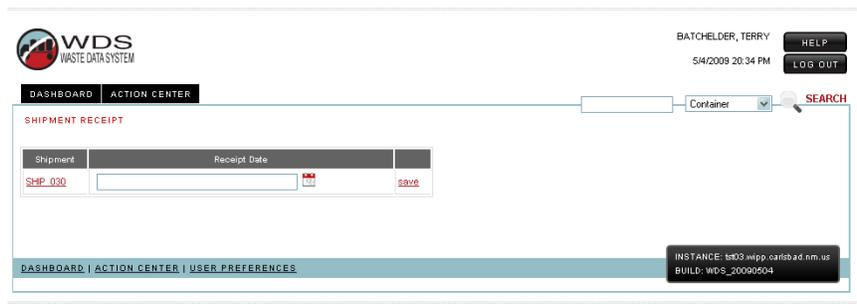

Figure 5-2 - Shipment Dashboard
5.1.2 Select Shipment that has been released by the Transportation Engineer as shown in Figure 5-2.
5.1.3 Enter receipt date from calendar and time as shown in Figure 5-2.